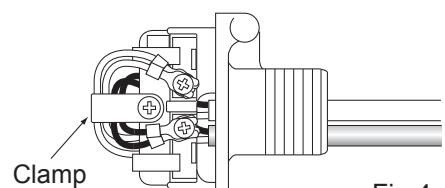

Fig.4
- 12) Loosen the Clamp Screw and affix wire cable with clamp. Clamp is in a carton box of Remote Controller. Please make allowance for wire to eliminate tension. (Fig.4)